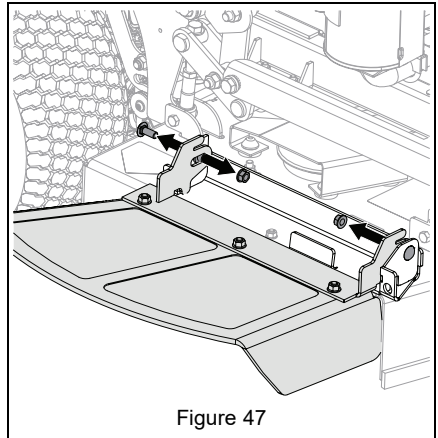

Figure 47
* Remove discharge chute bracket for operation with grass catcher. Reinstall chute bracket for operation without grass catcher. See Figure 47.